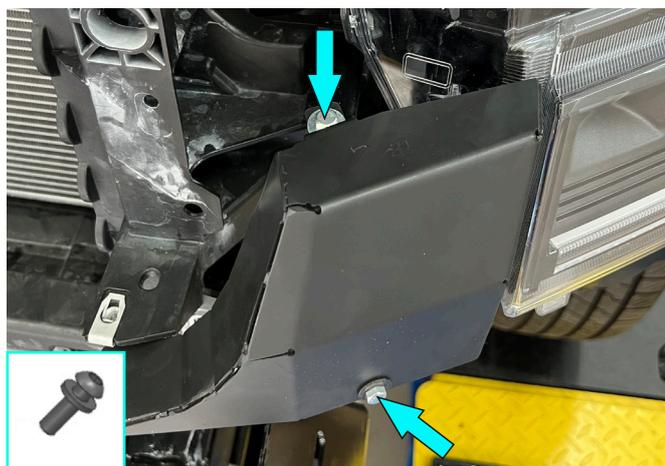

Fig.40
40. Install plugs between light and grille (item 3, 4) as shown in fig. 40. Adjust the plugs and fix it using screws M6x20 and washers 6 (item A, H).